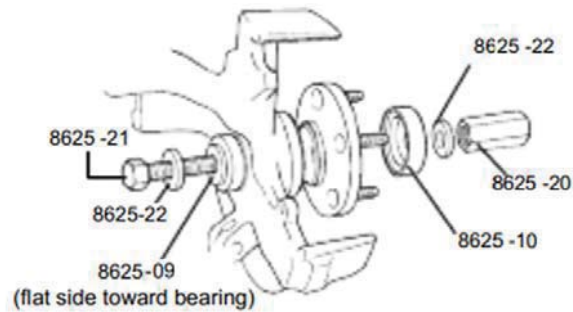

Figure 4
5. Assemble the tool components as shown in Figure 4, and install the hub.